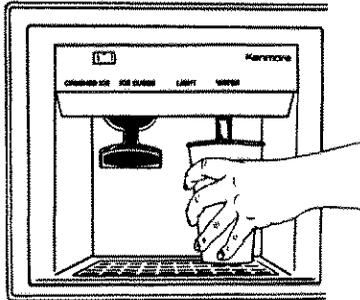

Figure 32
- b. Release pressure on bar to shut off water. Slight dripping may occur. Spill shelf is **not** self-draining, so large spills should be wiped dry immediately. See Figure 32.